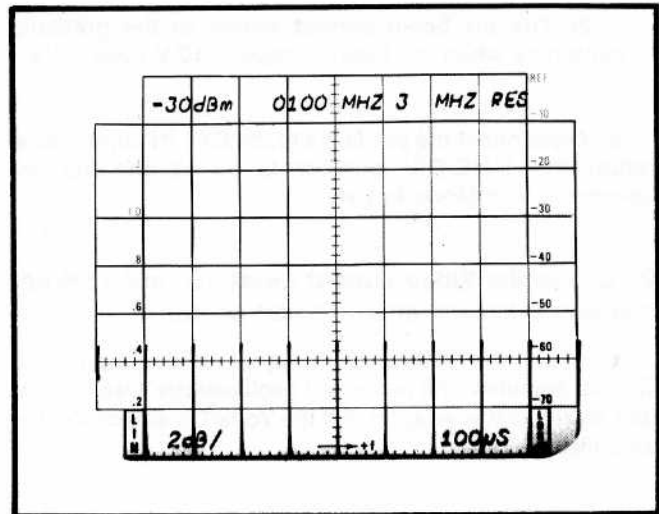

Fig. 3-11. Display showing time markers for checking TIME/DIV accuracy.
d. Switch the TRIGGERING to INT (SOURCE) and NORM (MODE) and the TIME/DIV to .1 ms. Adjust the VHF signal generator output for a display amplitude of approximately 2 divisions (see Fig. 3-11).